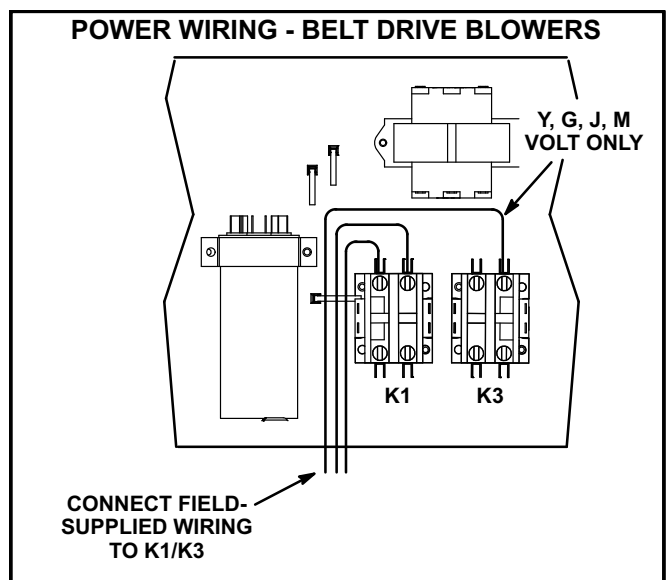

FIGURE 11
- 2- Route power through the side or bottom power entry area. For bottom power entry, a bottom power entry kit must be used. Connect power wiring to K1/K3 contactors in the control box. See figure 11 or 12. On ZC units equipped with electric heat, route power wiring to TB2; see parts arrangement for location. See unit wiring diagram.